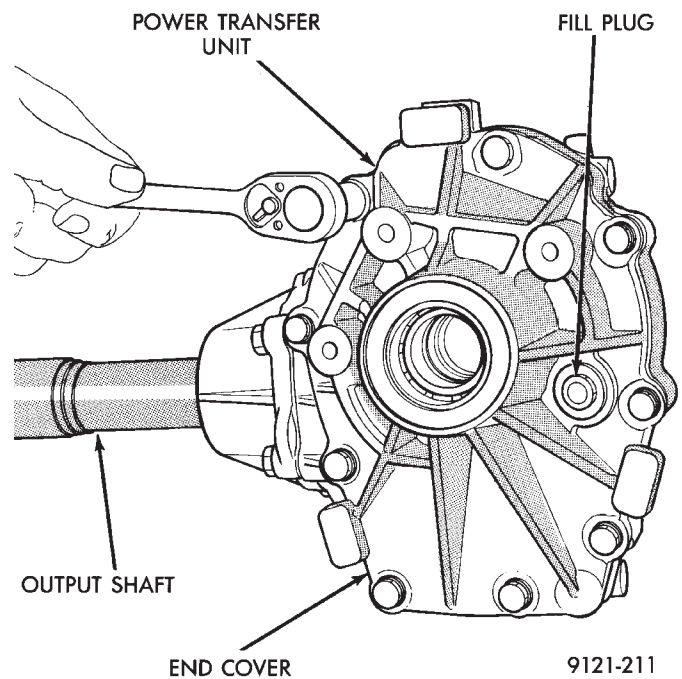

Fig. 13 P.T.U. End Cover Bolts
- (1) Remove P.T.U. end cover bolts (Fig. 13).